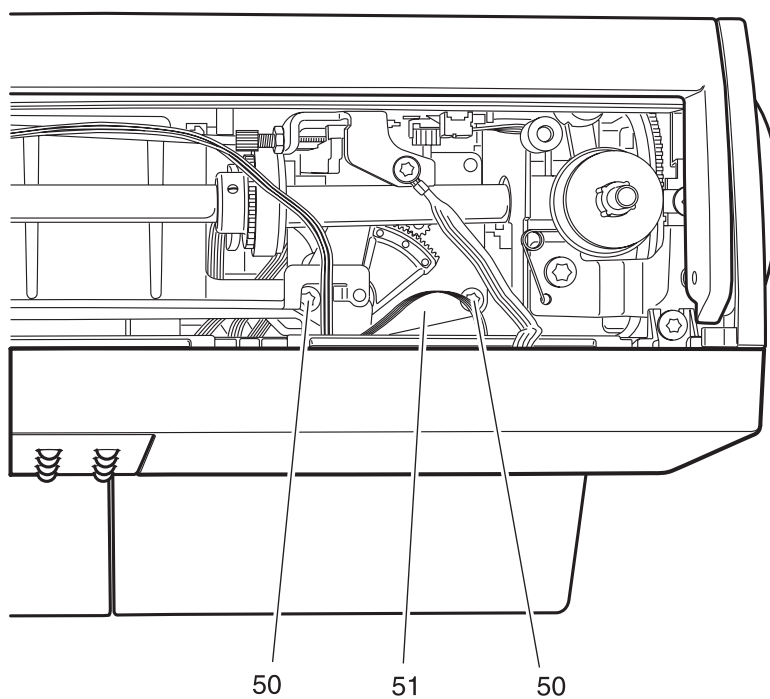

Fig. 26
- Loosen both screws 50 just a little (fig. 26).
- Tighten both screws 50 (fig. 26).